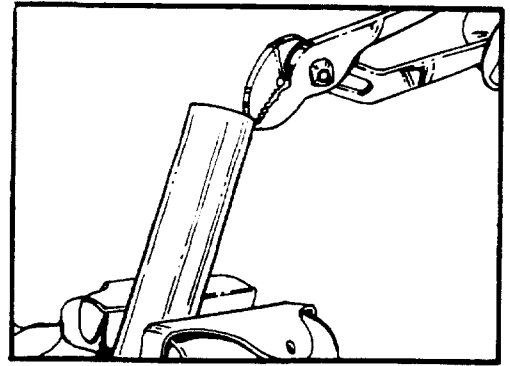

FIGURE 40.
If the bushing (38) is to be replaced, place the upper cover and jacket tube assembly (37) in a vise with the vise jaws clamping firmly on the jacket tube without deforming the jacket tube. Using an appropriate type of pliers, "uncrimp" or relieve the two crimped areas on the bushing end of the jacket tube. Remove the bushing using a bearing or seal type puller and discard the bushing. Set the upper cover and jacket tube aside to await reassembly. See figures 40 and 41.